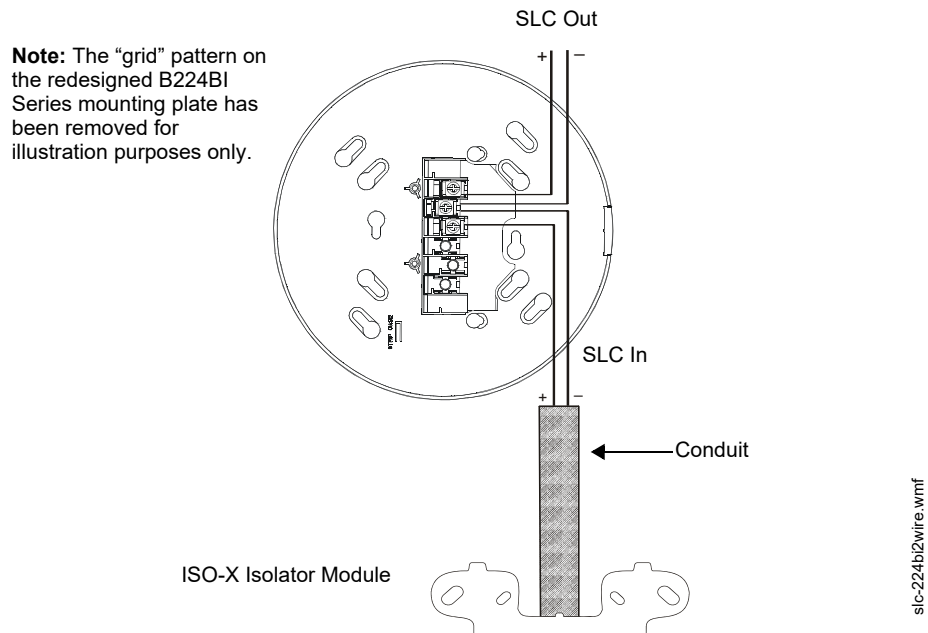

Figure 10.3 Wiring a B224BI-WH/B224BI-IV Isolator Base Mounting Plate
- B224BI-WH, B224BI-IV Isolator base (Figure 10.3). (-WH is white; -IV is ivory). (Replaces B224BI, legacy ivory)